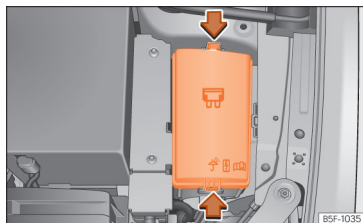

Fig. 203 In the engine compartment: lid of the fuse box.
- Press the locking tabs to unlock the fuse box cover >>> Fig. 203.